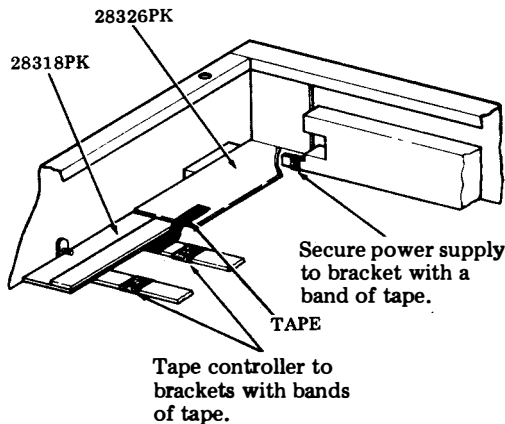

Fig. 9
4.04 Remove back panel of pedestal. Apply a band of tape around each of the three quarter turn fasteners and their respective mounting brackets. See Fig. 9.
4.06 Position a 28318PK wood detail at top inside of pedestal. Position a 28326PK corrugated detail in the pedestal to hold the wood detail in position and secure in place with a strip of tape. See Fig. 9.